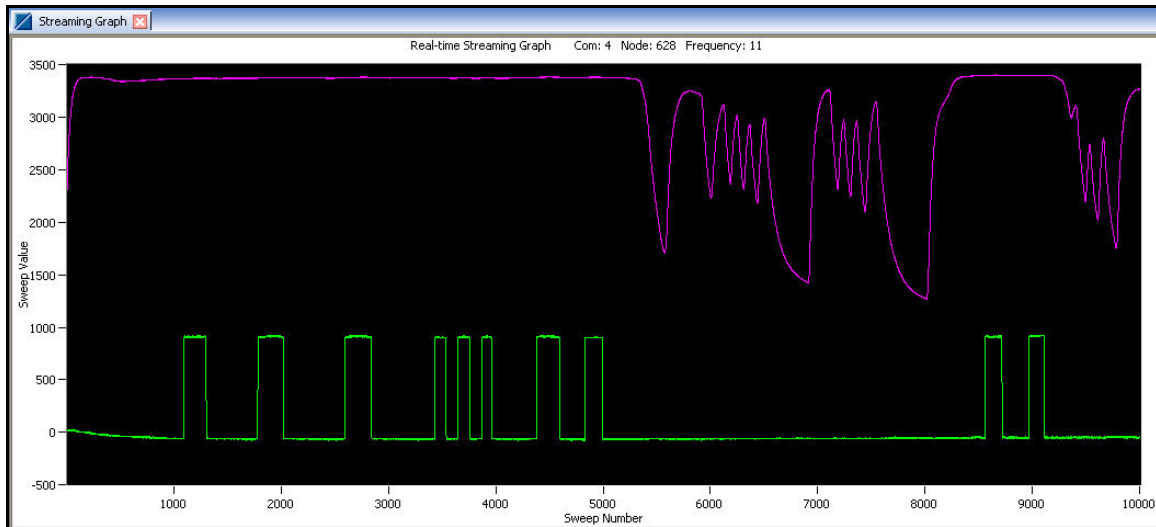

Figure 5
- During the streaming, push in and release several times, the button on the edge of the Tester Board to shunt the resistor in and out of the stream. This will appear as a stepped (green) line as shown in Figure 5.
- During the streaming move your finger over, off and around the photocell to change the light passage. This will appear as a wavy (purple) line as shown in **Figure 5**.